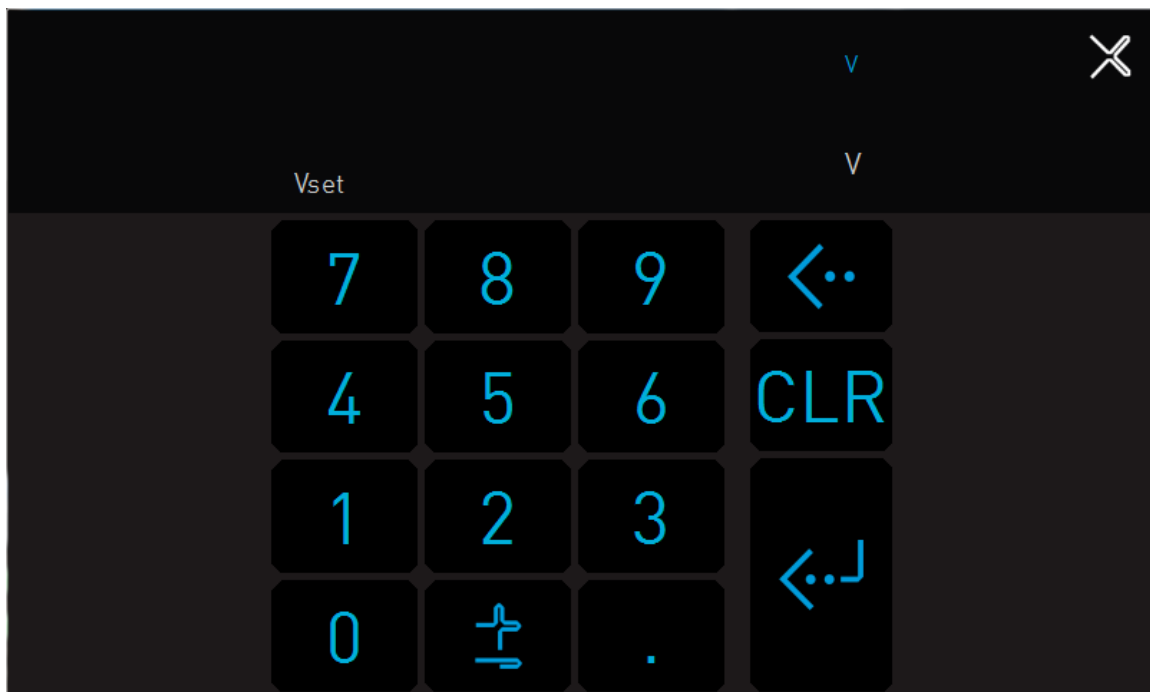

Figure 3-3
1. Tap V next to the numbers of Vset, the touch panel will switch to a numeric keypad as Figure 3-3 shows.